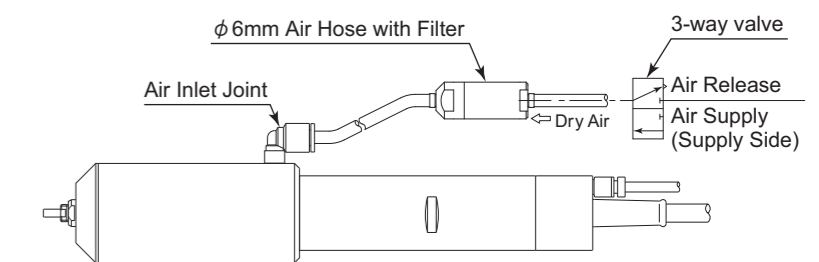

Fig. 3
- ① Connect the provided  $\phi$ 6mm Air Hose with filter and 3-way valve to Air Inlet Joint shown in Fig. 3.
- ② Supply clean air from air compressor through air filter or air dryer to the 3-way valve at the set air pressure : from 0.55 - 0.6MPa (79.8 - 87psi).